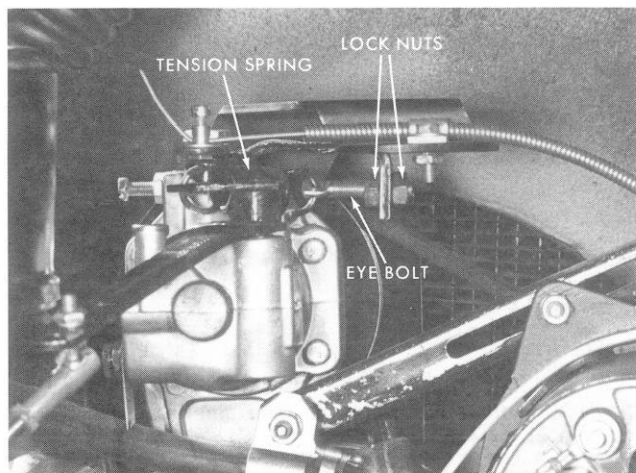

Figure 40
7. To eliminate hunting, or to increase the spread of RPM between no-load and full load, reduce the tension on the spring by loosening the lock nuts on the eyebolt, and shortening the spring 1/32". (See Figure 40).
12. If the drop in speed between no-load and full load is too great, loosen the lock nuts and add tension to the spring (Figure 40) by lengthening the spring $1/32''$. Bring engine back to original speed with throttle lever. Repeat this procedure as required.